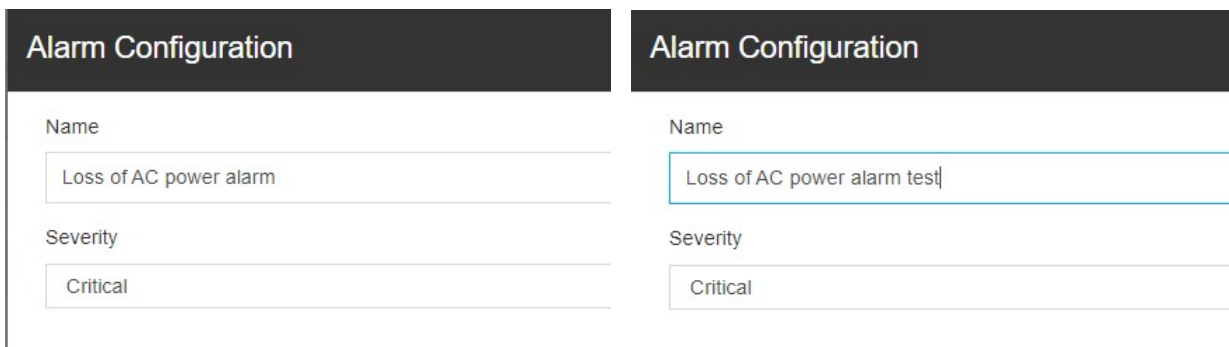

Figure 6-30 Alarm Configuration
2. The **Alarm Configuration** page is displayed. If you do not make any modification, the **SAVE** button is unavailable. If you click **CLOSE**, the system exits the edit page (as shown in Figure 6-30).